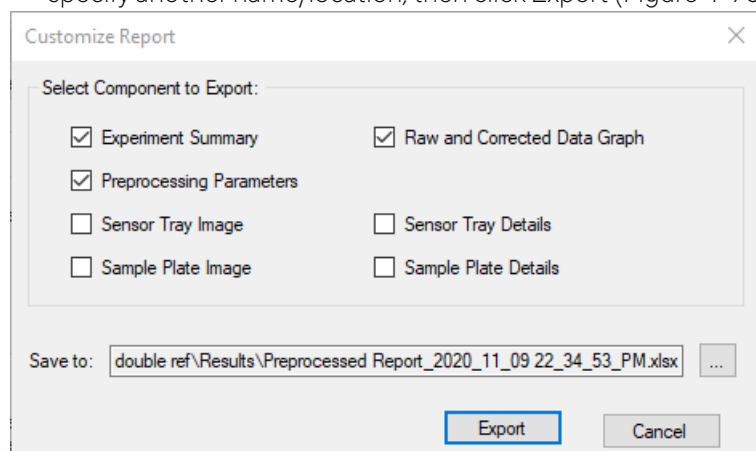

Figure 4-90: Excel Report Export Options
- Click  (Excel Report) to export the processed (corrected) data for your experiment or combined data set in .xlsx format. Select which experimental components to export, use the default report name or click ... to specify another name/location, then click Export (Figure 4-90).